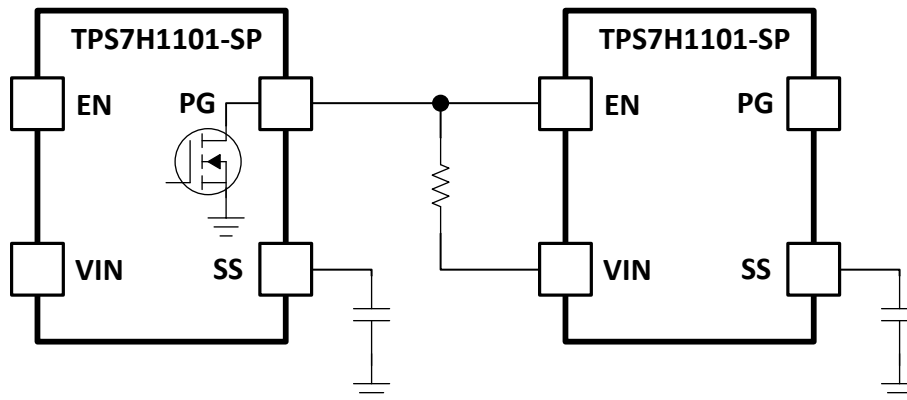

Figure 9. Sequencing LDOs with Power Good
8.3.2 Power Good (PG)
Power Good terminal (9) is an open-drain connection and can be used to sequence multiple LDOs. Figure 9 shows typical connection for $V_{IN} > 3.5$ V. The PG terminal will be pulled low until the output voltage reaches 90% of its maximum level. At that point, the PG pin will be pulled up. Since the PG pin is open drain, it can be pulled up to any voltage as long as it does not exceed the absolute max of 7.5 V listed in the Electrical Characteristics table.